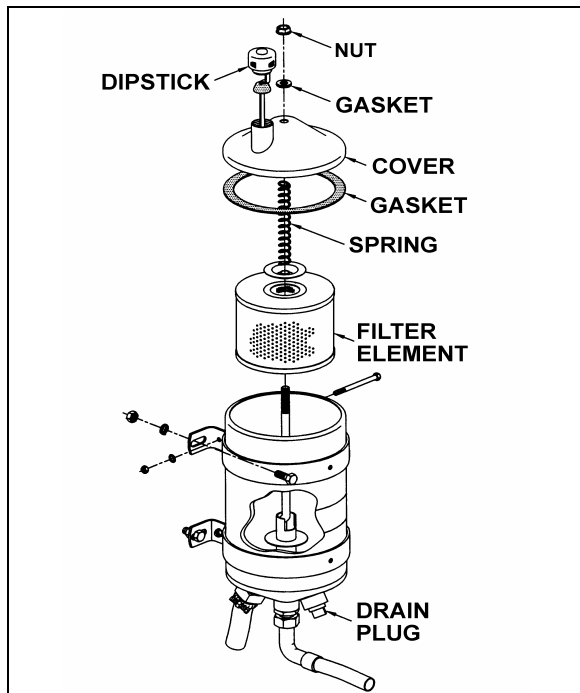

FIGURE 17: POWER STEERING FLUID RESERVOIR 14018A
3. Insert dipstick in reservoir. Remove it again to check fluid level (Fig. 17).